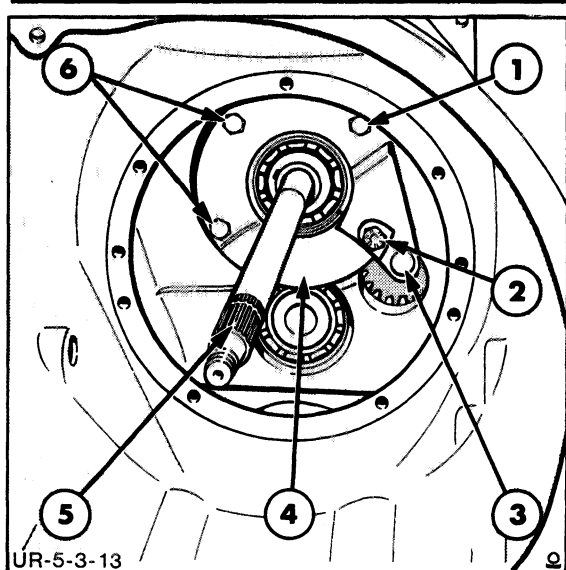
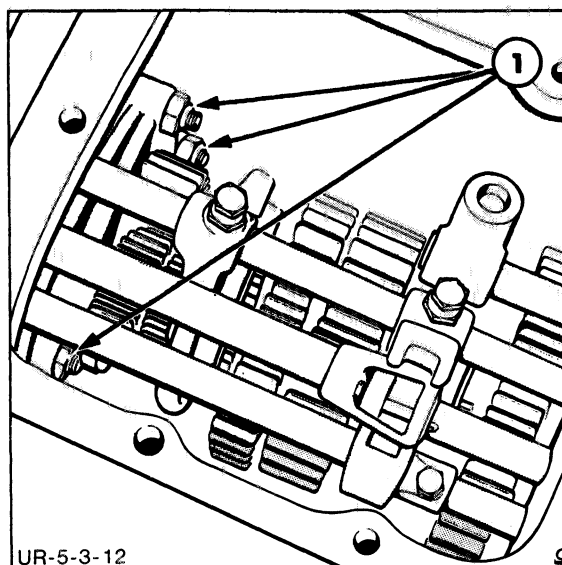

FIGURE 4-260
FIGURE 4-261
1. Place the input shaft bearing retainer plate, Figure 4-260, in the transmission and tap it rearward so the front reverse idler shaft enters the hole in the plate as shown.
2. Secure the retainer plate in the transmission by installing the bolts, Figure 4-260. Tighten the bolts to 40-50 ft. lbs. (54-68 N·m), then install the three attaching nuts, Figure 4-261, and tighten them to 18-25 ft. lbs. (24-34 N·m).